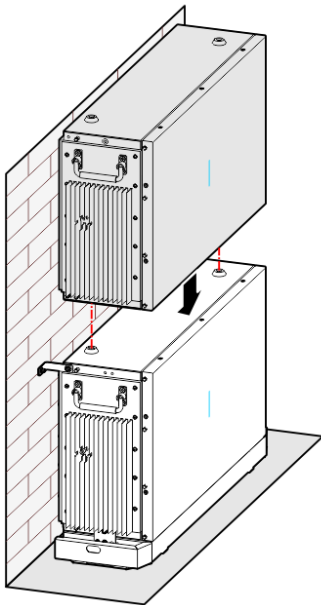

Figure3-19 Place the battery module
Step 8 Place the battery module onto the lower battery module, as shown in Figure3-19.